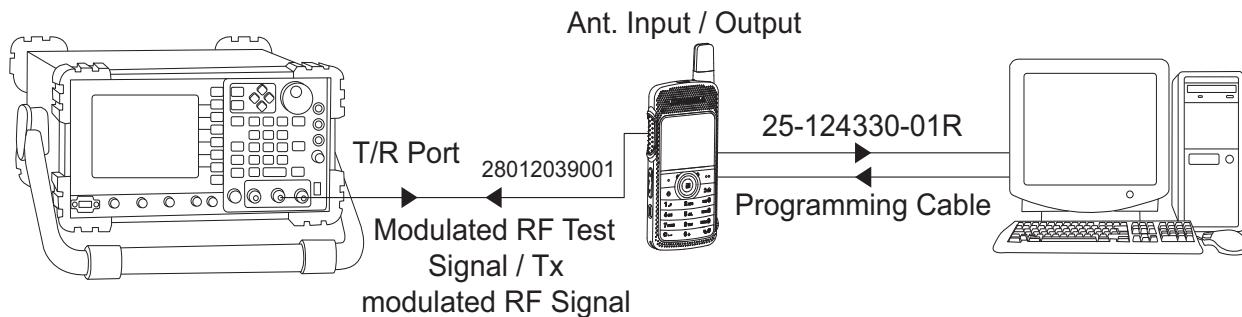

Figure 4-2. Radio Transmitter and Receiver Tuning Setup
A personal computer (PC), Windows XP/Vista/Win7 and a tuner program are required to tune the radio. To perform the tuning procedures, the radio must be connected to the PC and test equipment setup as shown in Figure 4-2.